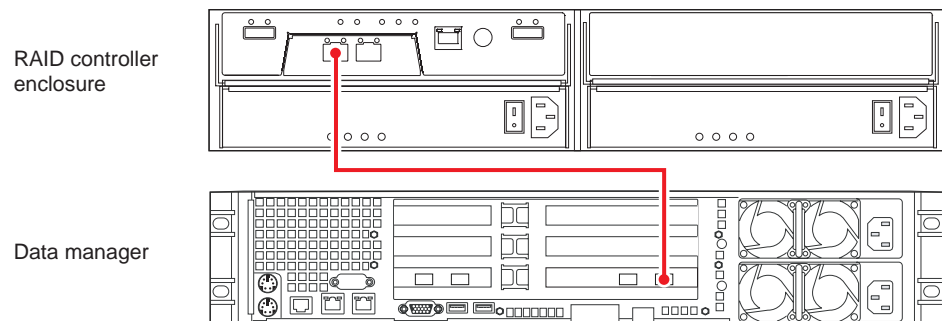

Figure 1-12 One Data Manager One Controller Enclosure (Single RAID Controller)
Use the following information and Figure 1-12 to cable a data manager to a single-controller RAID enclosure.
- Connect the Data Manager's Fibre Channel PCI card port to the RAID controller's host 1 port in the controller enclosure, see Figure 1-12.